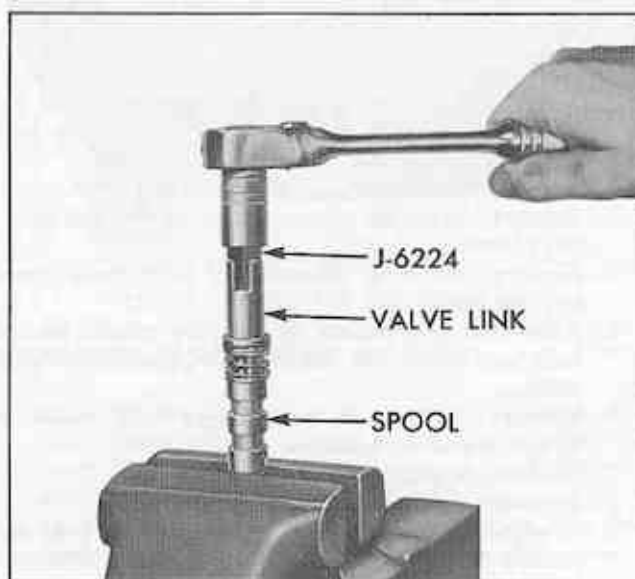

Fig. 56 Spool Assembly Clamped in Vise
3. Clamp spool assembly in a vise on small end (Fig. 56) do not clamp spool on large diameter.